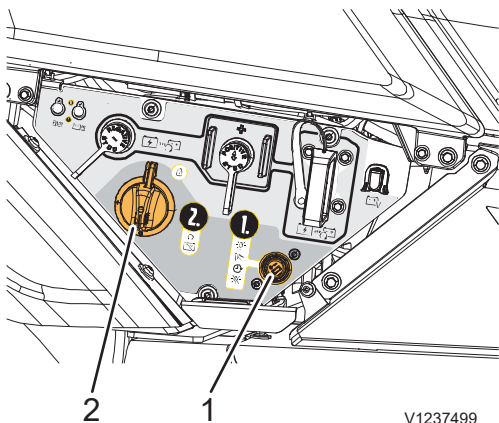

Fig.3
- 4 If the button/lamp (item 1 in Fig 3) is lit, press the button and wait until the lamp stops flashing. This can take between 2-300 seconds.
- 5 Turn the main power switch (item 2 in Fig 3) to position 0. Lock the switch with a padlock.
- 13 Connect the main electric power by removing the padlock and turning the service switch (see item 2 in Fig 3) to position 1. Close the hatch to the service distribution box.